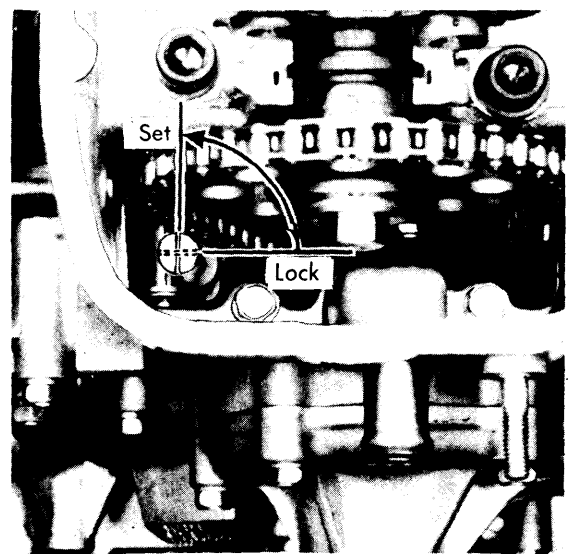
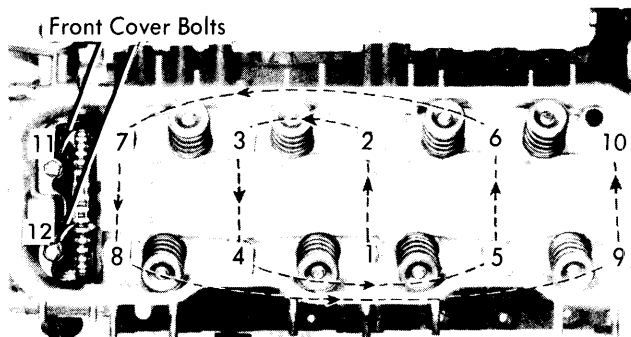
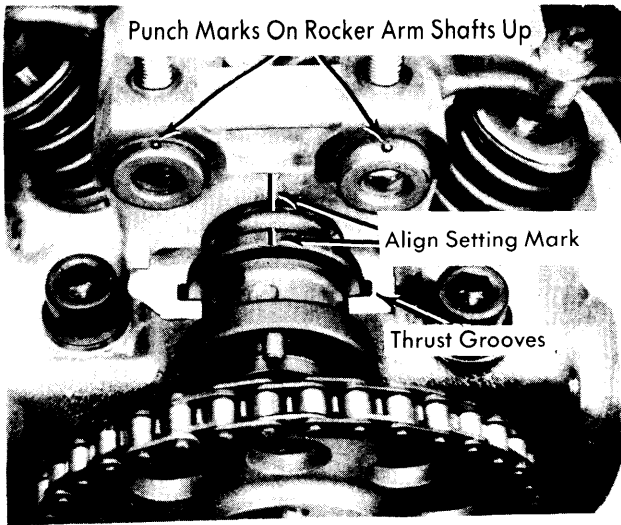

Fig. 1 Locking Timing Chain Adjuster
Fig 2 Cylinder Head Bolt Loosening & Tightening Sequence
Fig. 4 Installing Camshaft & Rocker Arm Assembly
cover, lock timing chain in place (See Fig. 1), and separate sprocket from camshaft. Disconnect air hoses from check valve and AIR pump. Remove air bypass valve and bracket, and remove two bolts securing front cover and cylinder head. Loosen cylinder head bolts in sequence shown in Fig. 2. Remove cylinder head with exhaust and intake manifolds.
2) Align cylinder head over dowels, oil cylinder head bolt threads and install bolts. Install two bolts securing front cover to cylinder head. Tighten cylinder head bolts in sequence (See Fig. 2) in two stages. Tighten securely front cover-to-cylinder head bolts.
2) Align mark on camshaft with mark on No. 1 rocker arm shaft bracket by turning crankshaft, Fig. 4. Lock the automatic chain adjuster in free state, by pressing downward on pin while turning it 90 degrees clockwise (See Fig. 1).
Installation — 1) Lubricate camshaft and rocker arm assemblies well prior to installation. Install camshaft, aligning thrust grooves, Fig. 4. Be sure punch marks on rocker arm shafts are in upward position.
2) Install rocker arm shaft bracket assembly and align camshaft mark with mark on No. 1 rocker arm shaft bracket. See Fig. 4. Tighten rocker arm shaft bracket nuts to 16 ft. lbs. (2.2 mkg) torque, while holding rocker arm springs with an adjustable wrench.
3) Align crankshaft pulley groove with TDC mark ("O" mark) on front cover. Be sure No. 4 cylinder (rear) is at TDC. Align sprocket hole with camshaft pin. Install sprocket and tighten bolt to 58 ft. lbs. (8.02 mkg). Set automatic chain adjuster by turning pin 90 degrees counterclockwise (See Fig. 1). Be sure chain is tensioned.